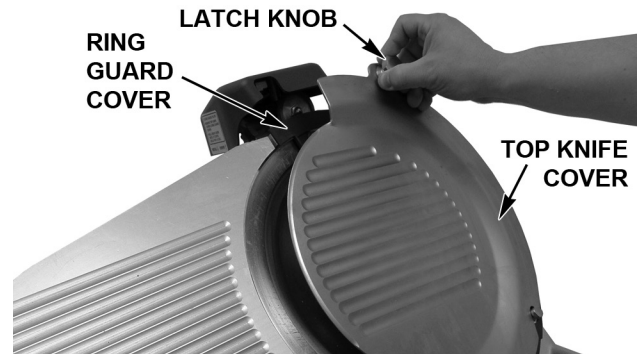

Fig. 8
- Remove the Top Knife Cover (Fig. 8) by pulling on the Latch Knob. The Top Knife Cover is held in place by a magnet under the Latch Knob.
- Remove the plastic Ring Guard Cover (Fig. 8) by lifting up.